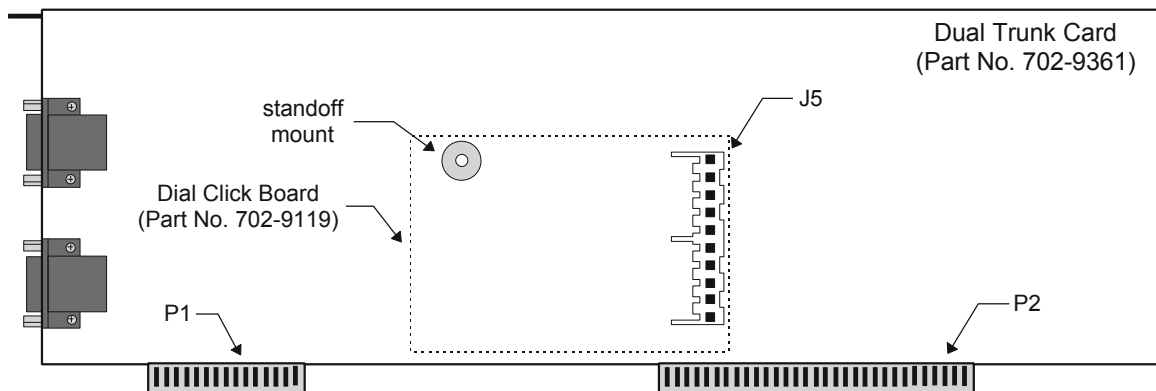

Figure 58. Dial Click Board Installation
- 4. Mount the supplied standoff near the center of the board as shown in Figure 58.